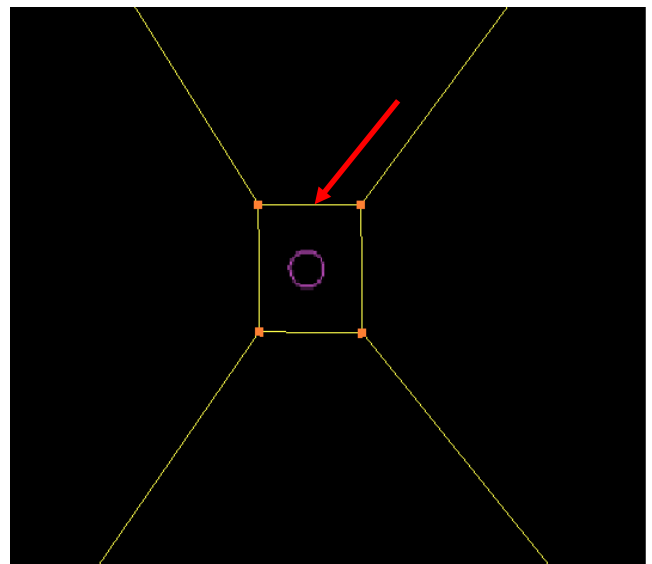

Figure 8.5
2. In order to exclude the inside block which was formed by the low density group as shown in figure 8.5, one insert is required and edges crossing through that block should be deleted. It is needed to resolve an ambiguity, which is a common requirement for many of the utilities. The assigned corners of surf id 5&6, at either ends of the cylinder form faces. So the high density group (containing corners assigned to cylinder surface) forms two cubes with 8 corners each as